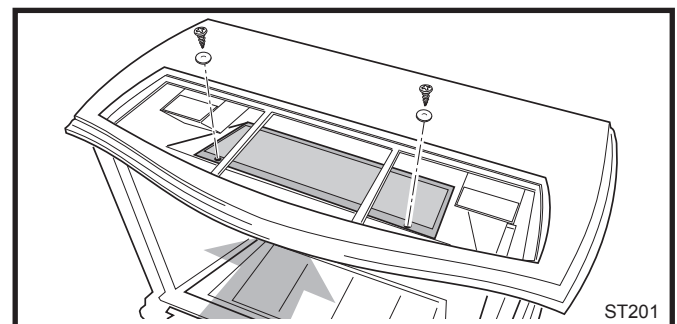

Fig. 21 Install catalytic combustor.
7. Slide catalyst between top plate and firebox. Allow catalyst to “fall” into hole on top of firebox. Secure with two screws as shown in Figure 21.